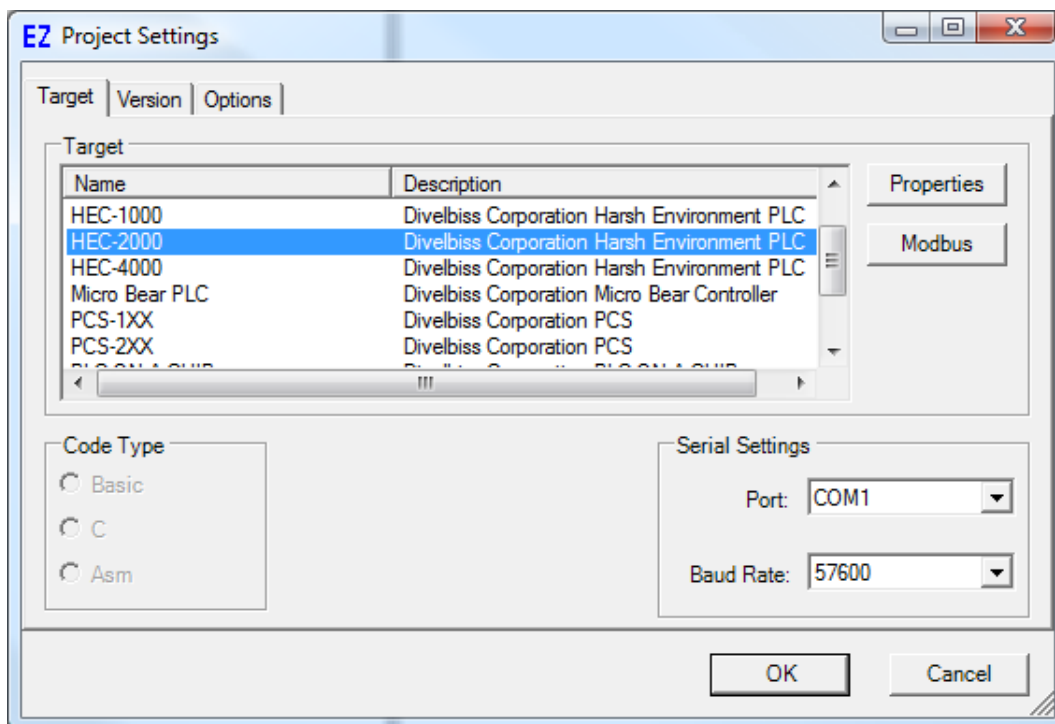

Figure 1.1 - Project Settings Window
1. In EZ LADDER, from the File Menu at the top, click **PROJECT** then **SETTINGS**. This will open the Project Settings Window. Select **HEC-2000** as the target from the choices. Refer to Figure 1.1. Verify the Port is correct and the baud rate is 57600.